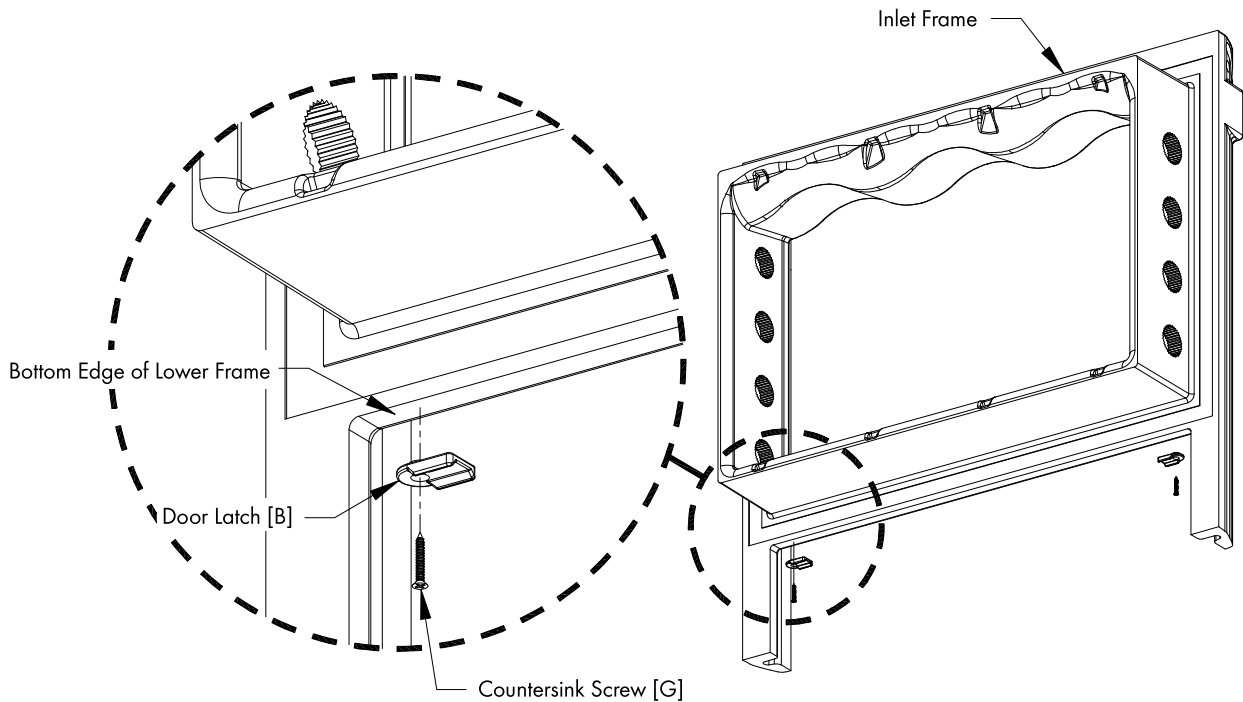

Figure 3
Attach (2) Door Latch [B] to lower Inlet Frame with (2) Countersink Screw [G], 1" from each side of Inlet Frame. See Figure 3.